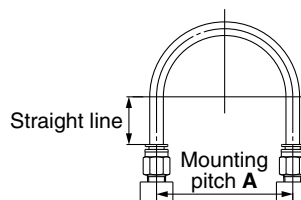

Fig. 1 Recommended piping
1. When connecting piping to the One-touch fitting, use pipe length with sufficient margin, in accordance with the piping conditions shown in Fig. 1.